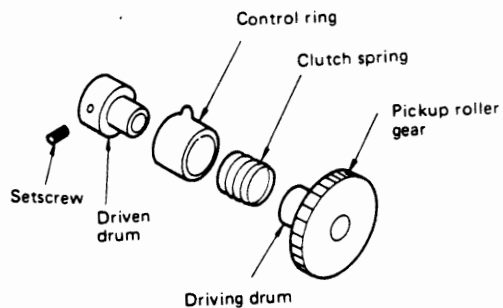
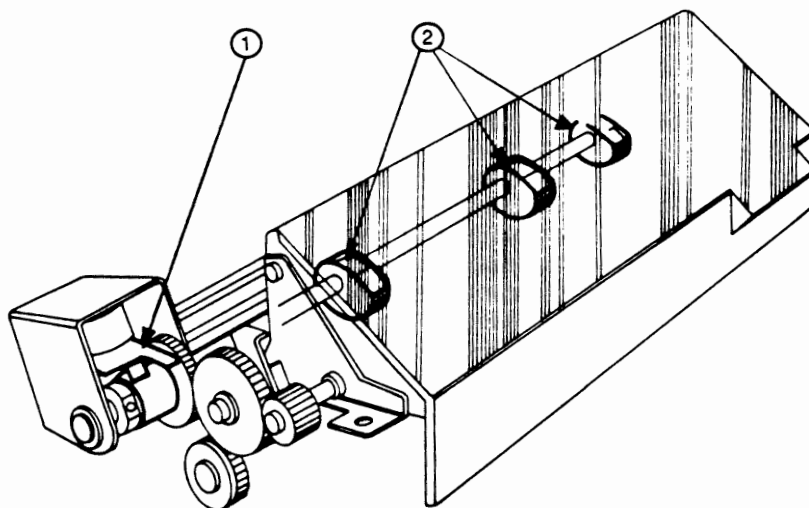

FIGURE 2-49
FIGURE 2-50
The clutch comes apart as shown in Figure 2-49. To lubricate, remove the spring and oil the inside of the spring thoroughly with tellus oil (P/N 970-0006). Then reassemble.
1. Start the roller shaft through the hole in the large side of the gear box. Install the thin brass washer, then the clutch assembly, facing as in Figure 2-50.
3. Hold the control ring (Figure 2-49) so that its tooth firmly engages the pawl on the solenoid and the gears mesh (Figure 2-50, #1). Turn the pickup roller shaft so that the flat side of the pickup rollers is facing up (Figure 2-50, #2). Tighten the setscrew to hold this position.